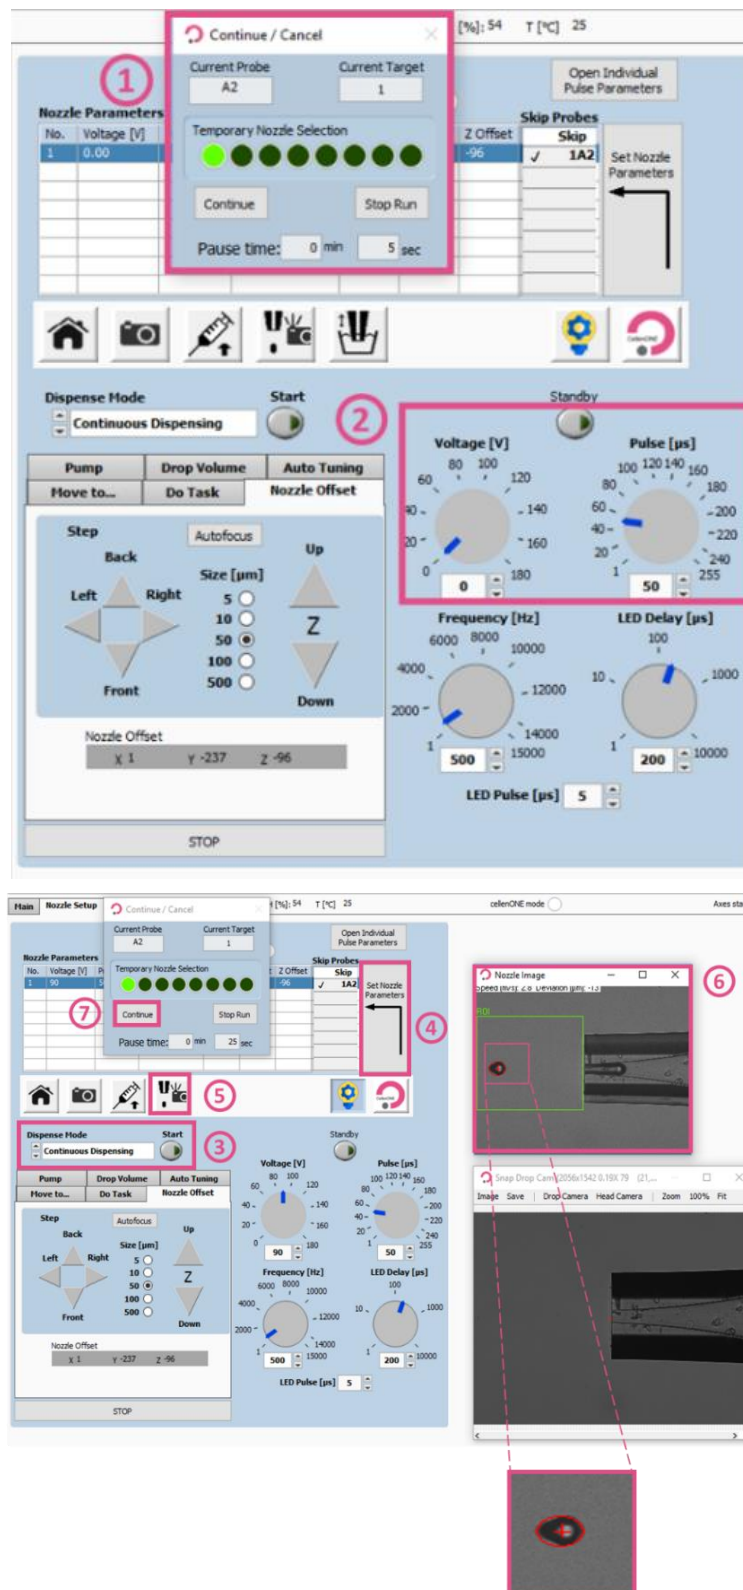

Figure 8: Drop Setup and start dispensing
Each dispensing run is built with the same logic, once the run starts (Figure 8):
- The user must check that the dispensing parameters (Voltage and Pulse) (Figure 8 ①) are correct by pressing the “Continuous Dispensing” button (Figure 8 ②) until a drop is stable without any satellite (if any).
- The user must save the new settings if the Voltage and Pulse were modified (Figure 8 ③) and press the “Drop Check” button (Figure 8 ④) to check if the drop is identified by the software (circled in red) (Figure 8 ⑤)
- Once droplet generation is stabilized, click “Continue” to resume the run (Figure 8 ①).